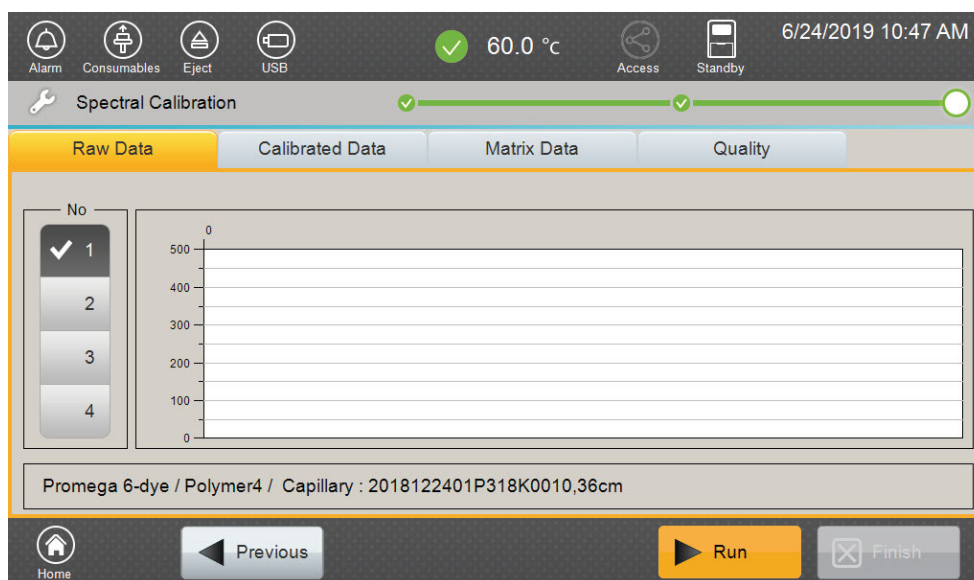

Figure 9. 'Spectral Calibration' screen.
- After the autosampler has returned to its home position, the 'Spectral Calibration' screen will automatically be displayed (Figure 9). Select **Run** to start the spectral calibration.